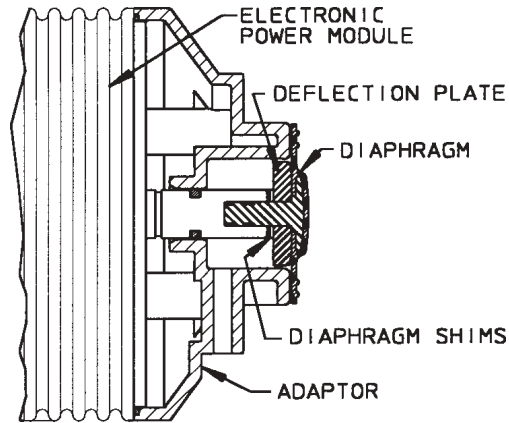

Figure 4.1
- c. Slide the diaphragm deflection plate onto the back of the diaphragm stud, radius side toward the diaphragm. Next, slide three shims onto the diaphragm threaded stud, and screw the diaphragm into the EPM unit. Refer to Figure 4.1. Turn diaphragm clockwise until deflection